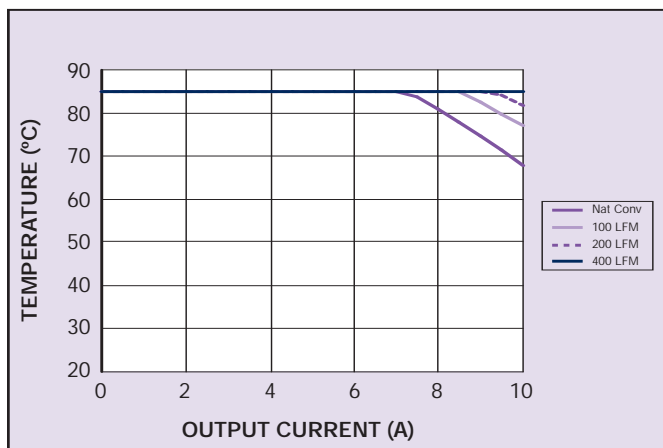
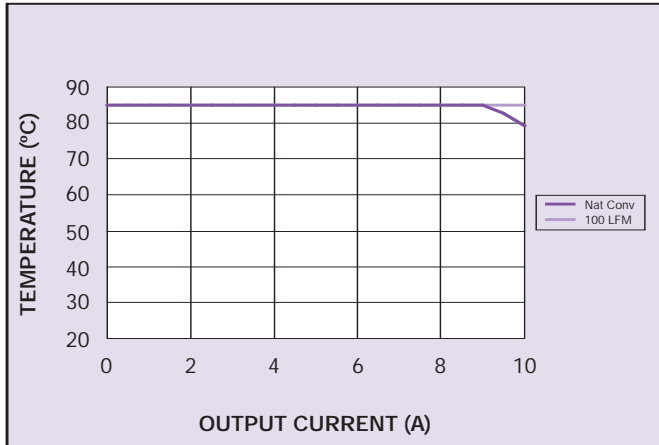

Figure 1 - Safe Operating Area for PTH12060W
Figure 6 - Safe Operating Area for PTH12060L
- See Figures 1, 2 and 3 for safe operating curves of PTH12060W and Figures 6, 7 and 8 for safe operating curves of PTH12060L.